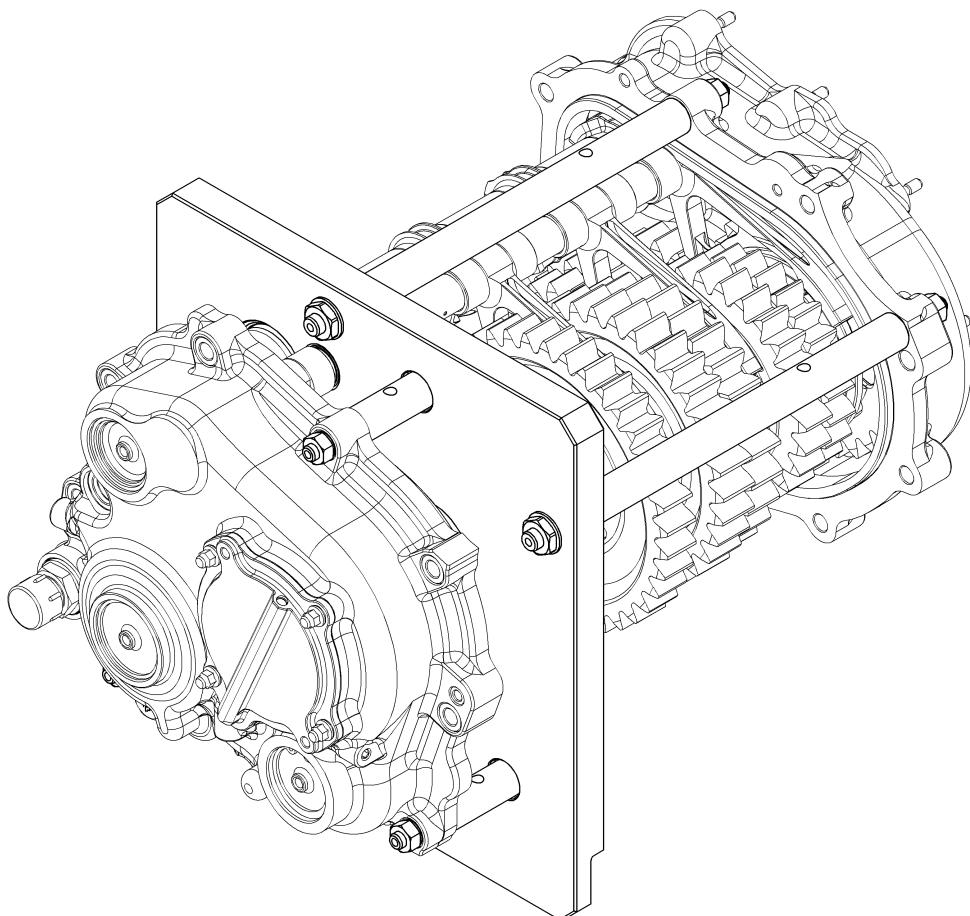

Figure 6 – 1159-999-001B Cluster Setting Jig
1. Assemble the cluster assembly and the LH cluster components in to the right and left hand side cover assemblies respectively and mount in to a vice using the cluster setting jig assembly as detailed in drawing 1324-999-004A, and shown in Figure 6.